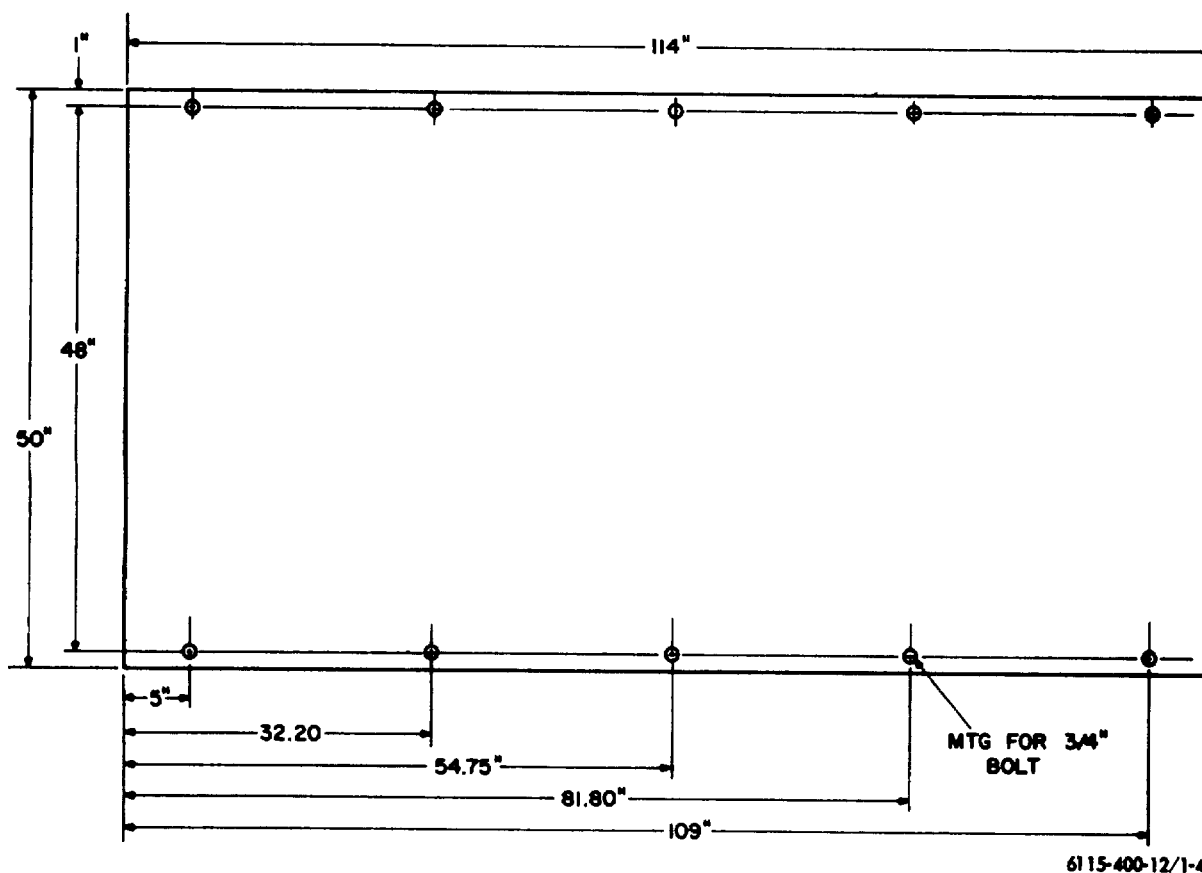

Figure 1-4. Base plan
- b. *Installation.* When preparing for a permanent installation, be sure the base is solid enough to support the weight of the unit. Refer to figure 1-4 for dimensions of the base.